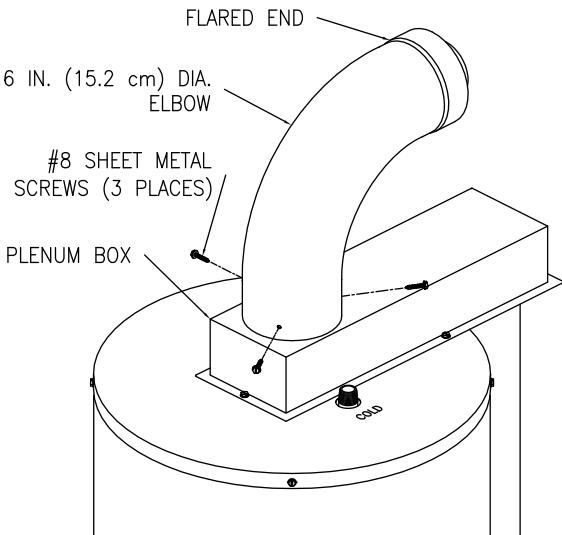

Figure 6
7. Extend the four (4) inch (10.2 cm) diameter telescopic tube to its maximum length and slide the backing plate over it. Place the large end of the four (4) inch (10.2 cm) diameter telescopic tube through the hole in the outside wall. Insert the smaller end of the four (4) inch diameter (10.2 cm) telescopic tube into the flared end of the four (4) inch (10.2 cm) diameter elbow, one (1) inch (2.5 cm) (*or until seated*). Drill three (3) 1/8 inch (3.0 mm) diameter holes, 120° apart, through the four (4) inch (10.2 cm) diameter elbow into the four (4) inch (10.2 cm) diameter telescopic tube. Fasten with three (3) #8 sheet metal screws (supplied). Adjust the overall length of the four (4) inch (10.2 cm) diameter telescopic tube so that 2-1/2 inches (6.4 cm) extends beyond the outside wall. Drill three (3) 1/8 inch (3.0 mm) diameter holes, 120° apart, through the four (4) inch (10.2) diameter telescopic tubes where the small and large sections overlap. Fasten with three (3) #8 sheet metal screws (supplied). Using the supplied special RTV silicone sealant, apply a sufficient amount to seal the joints (See Figure 6).